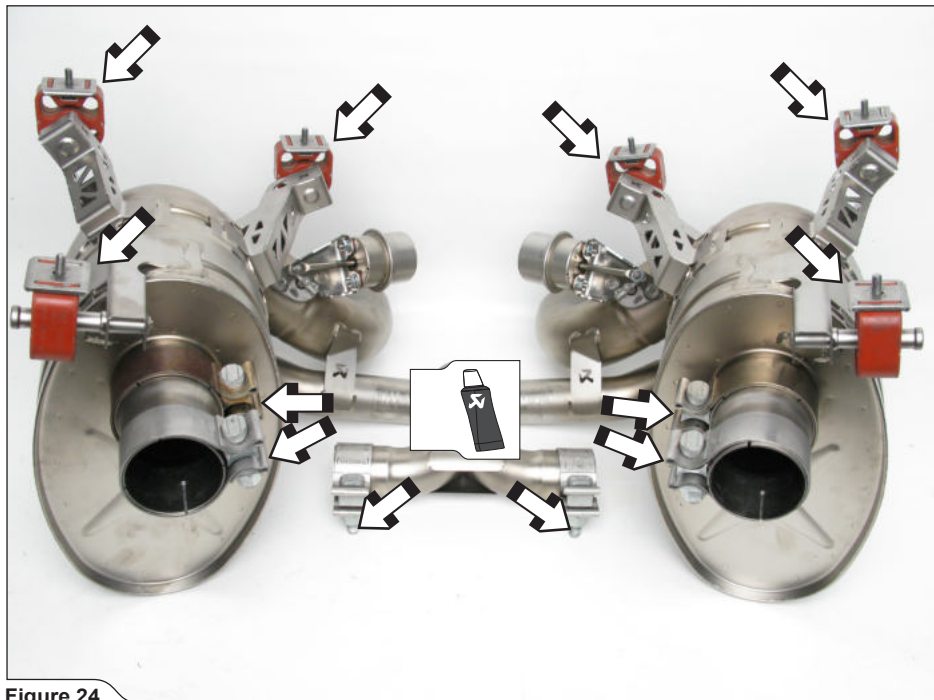

Figure 24
7. **For Slip-On only:** attach the original rubber mountings, Akrapovič Slip-On adapters and clamps onto the mufflers and collector, as shown (Figure 24).